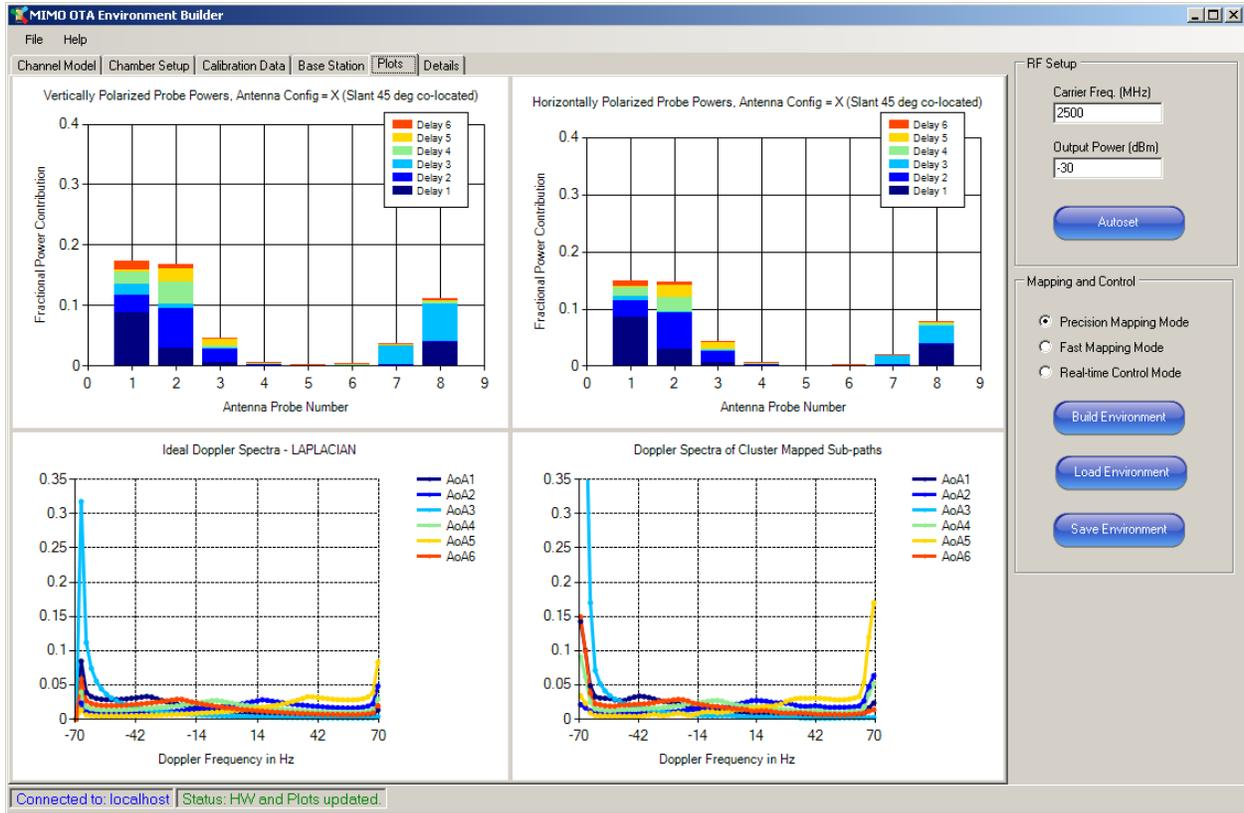

Figure 3-24: Plots Tab
- Select the **Plots** tab, as shown in Figure 3-24.